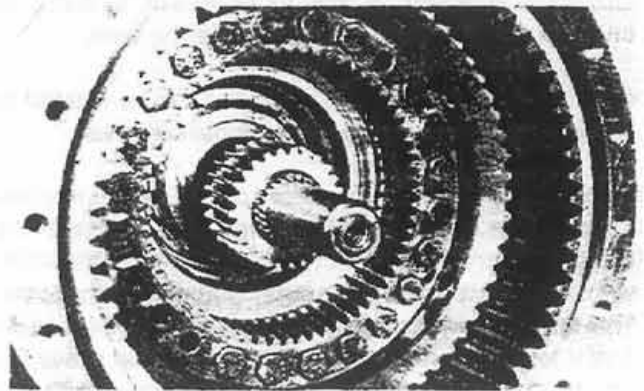

Figure 35:
Step 64. Place the axle shaft with the attached sun gear into the housing. Do not insert the axle shaft all the way in at this time (Fig. 35).